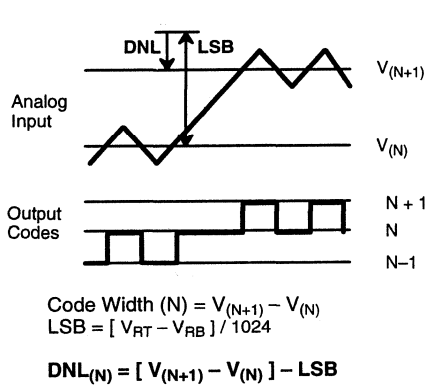
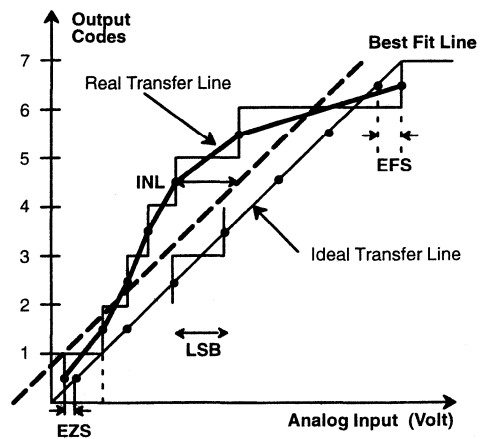

Figure 3. DNL Measurement
Figure 4. INL Error Calculation
- 1 Tester measures code transitions by dithering the voltage of the analog input (V_{IN}). The difference between the measured and the ideal code width ($V_{REF}/1024$) is the DNL error (Figure 3). The INL error is the maximum distance (in LSBs) from the best fit line to any transition voltage (Figure 4). Accuracy is a function of the sampling rate (FS).